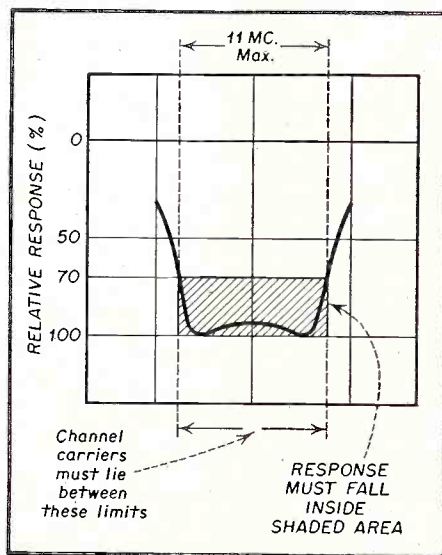

Fig. 6- Tuner response curve, showing band-pass limits.
2. Establish the channel limits (see fig. 6) by using the marker (AM r-f) signal generator to produce marker pips on the response curve; set the generator first to 210 mc, then to 216 mc.